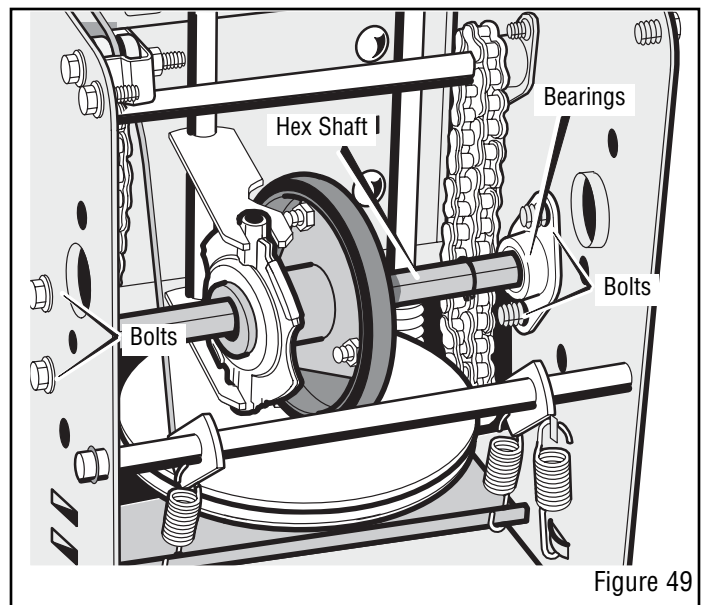

Figure 49
8. Remove the four **bolts** that hold the **bearings** on each side of the **hex shaft** (see Figure 49).